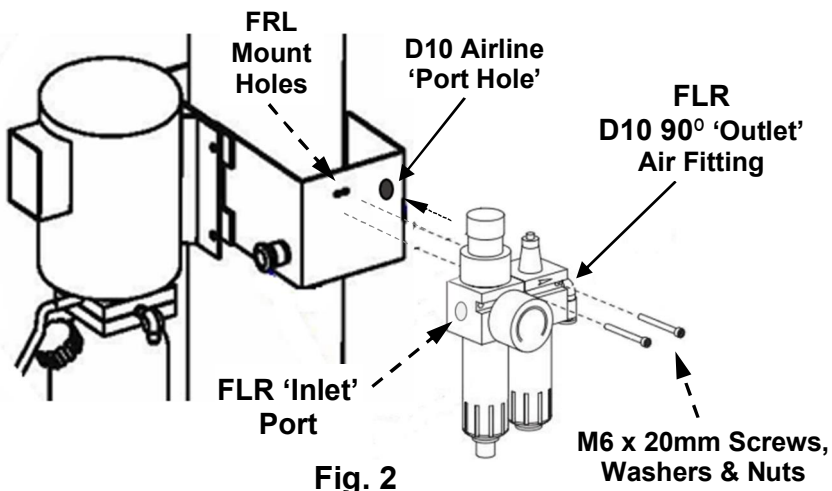

Fig. 2
NOTE: Use 'Quick Disconnect' Air Inlet Fitting used from FP14KC-X Hardware for FLR 'Inlet' Port, Fig. 2.
- 3) Using the M6 x 20mm Screws, Washers & Nuts, mount FRL (Filter, Regulator & Lubricator) to the two holes located on the side of Control Bracket, **Fig. 2**. Ensure FRL's 90° 'Outlet' Air Fitting is aligned with port hole in Control Bracket to route D10 Airline in following steps.
- 4) Install Quick-Disconnect 'Inlet' Fitting to the FRL 'Inlet' port, **Figs. 2 & 3**.